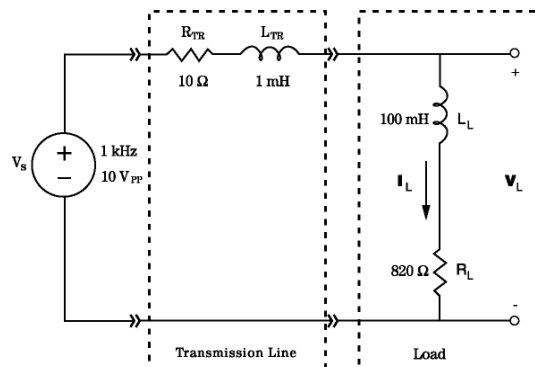

Figure 1
Review Sect. 14-1 through 14-5 in the text*. The circuit of Fig. 1 represents a model of a power system. Use phasor analysis methods to find V_L and I_L . Find the total complex power S_{tot} provided by the source V_s and the complex power absorbed by the “transmission lines” S_{TR} and the “load” S_L . Remember to use rms values for these calculations. All phase angles should be referenced to V_s .
- a. Measure and record the actual values of the inductors with an RCL meter and the resistors with the DMM. In your journal draw a schematic like that of Fig. 1, labeling each element with its measured value. Recalculate the complex powers and V_L using the actual element values. Construct the circuit of Fig. 1 on a protoboard.
- b. Connect the required amount of capacitance to the circuit of Fig. 1. Determine the new V_L by measuring the voltage across the load, and the phase angle referenced to V_S .